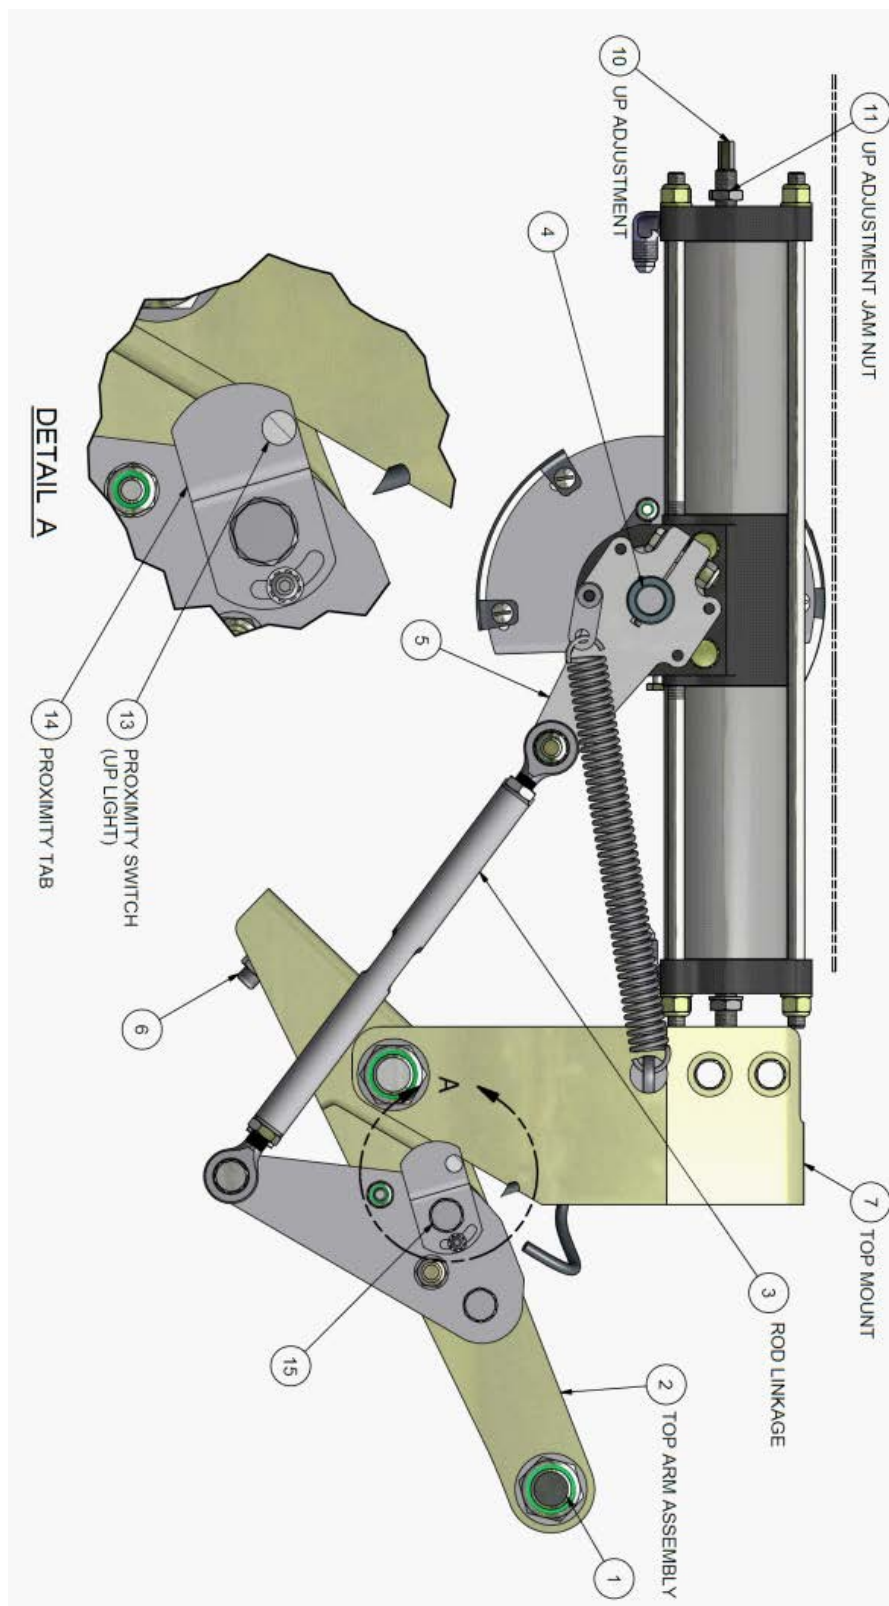

FIGURE 4-5: MAIN GEAR ADJ. UP
(See figure 4-5)
10. Rotate the sensor plate so that the sensor is near the edge of the plate with the gear in the up position. Reference Figure 4-5 inset.